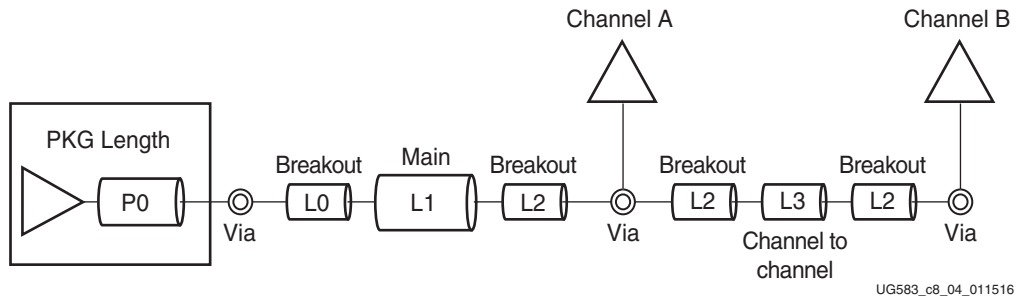

Figure 2-37: Chip Select Routing for LPDDR4 without ECC
- See item 2 in General Memory Routing Guidelines.
Figure 2-37 shows the chip select (CS) routing for the LPDDR4 interface without ECC.